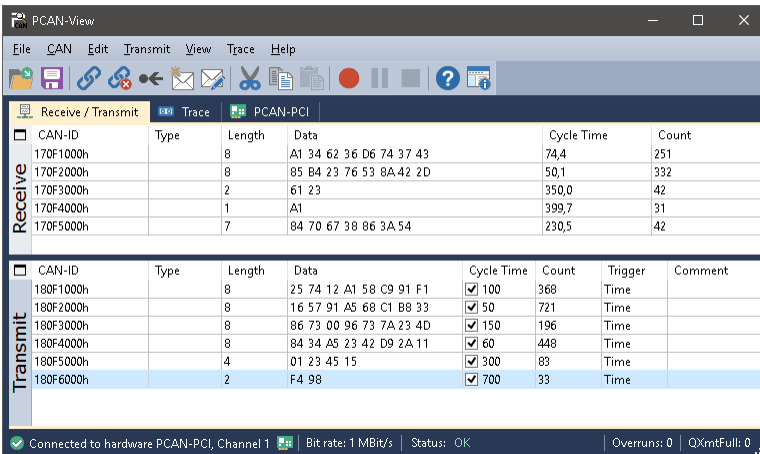

Figure 8: Receive/Transmit tab
6. Confirm the settings in the dialog box with **OK**. The main window of PCAN-View appears (see Figure 8).